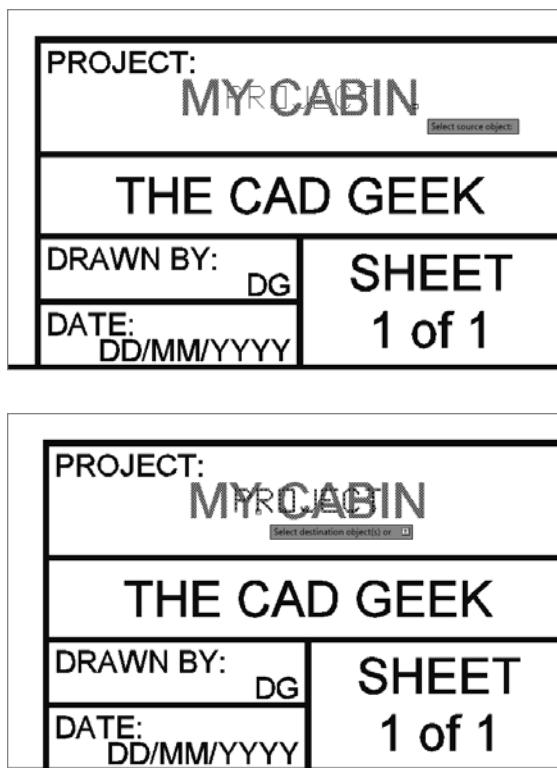

FIGURE 14.12 Matching the properties of the MY CABIN text string with the PROJECT attribute definition
10. With Match Properties running, select the MY CABIN text string as the source object (left Figure 14.12), and then select the PROJECT attribute definition as the destination object (right Figure 14.12).